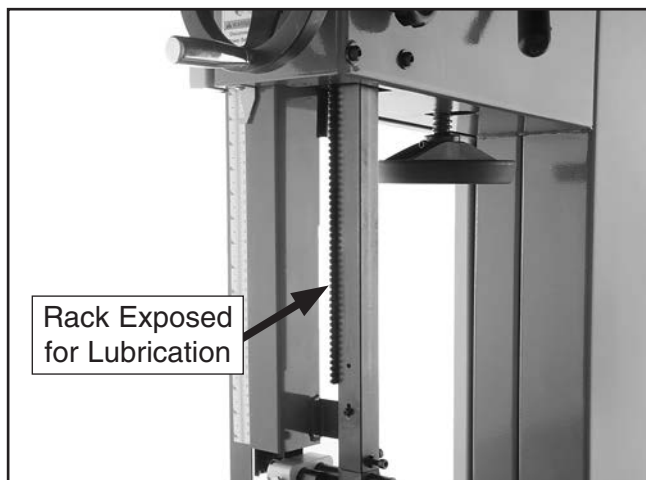

Figure 88. Example of rack lubrication location.
3. Using a rag and mineral spirits, wipe off any existing grease and sawdust build-up on the rack (see **Figure 88**).